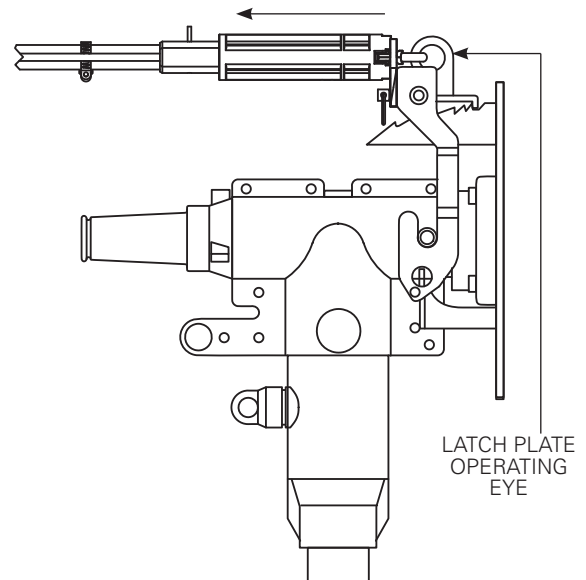

Figure 13e. Verify latch plate engagement.
- If optional locking pin is used, pull on latch plate's operating eye with clampstick to verify latch plate is still engaged in locking teeth after locking pin is tightened. (Refer to Figure 13e.)